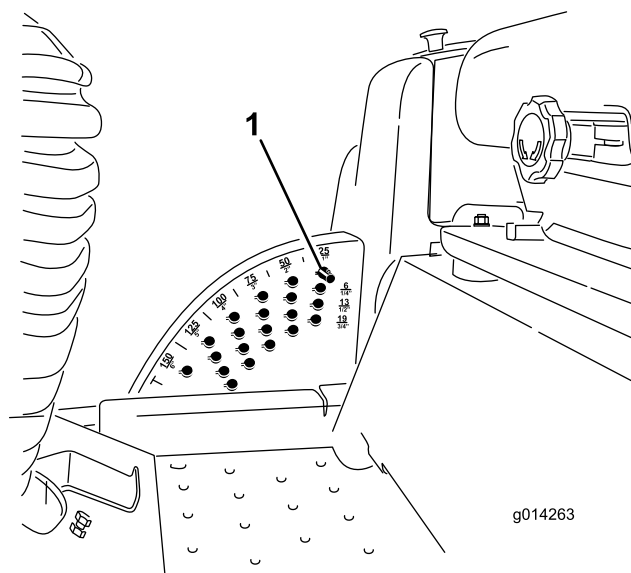

Figure 6
1. With the engine running, push back on the mower lift switch until the mower is fully raised and **release the switch immediately** (Figure 6).
2. To adjust, rotate the stop pin until the nub on it lines up with the slots in the holes in the height-of-cut bracket and remove it (Figure 6).
3. Select a hole in the height-of-cut bracket corresponding to the height-of-cut desired, insert the pin, and rotate it down to lock it in place (Figure 6).
Note: There are four rows of hole positions (Figure 6). The top row gives you the height of cut listed above the pin. The second row down gives you the height listed plus 1/4 inch (6 mm). The third row down gives you the height listed plus 1/2 inch (12 mm). The bottom row gives you the height listed plus 3/4 inch (18 mm). For the 6 inch (15.8 cm) position there is only one hole, located in the